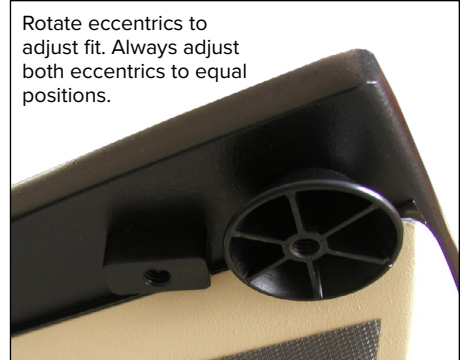

Fig. 13
- Slide towards CT cradle Foot End engaging the Foot Latch Assembly. Do not lock the Latch Assembly. Looking at the Eccentrics from below, rotate them until the CT Overlay holds the CT cradle firmly centered and also slides on/off the CT cradle (Fig. 13).